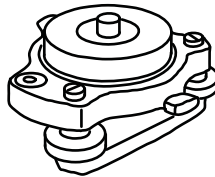

Figure 1-11. Universal Tribrach and Tribrach Adapter
**The universal tribrach and tribrach adapter1** (p/n 22-006008-01 and p/n 22-006009-011) are used to level the tripod and secure the receiver or antenna to the tripod (Figure 1-11).